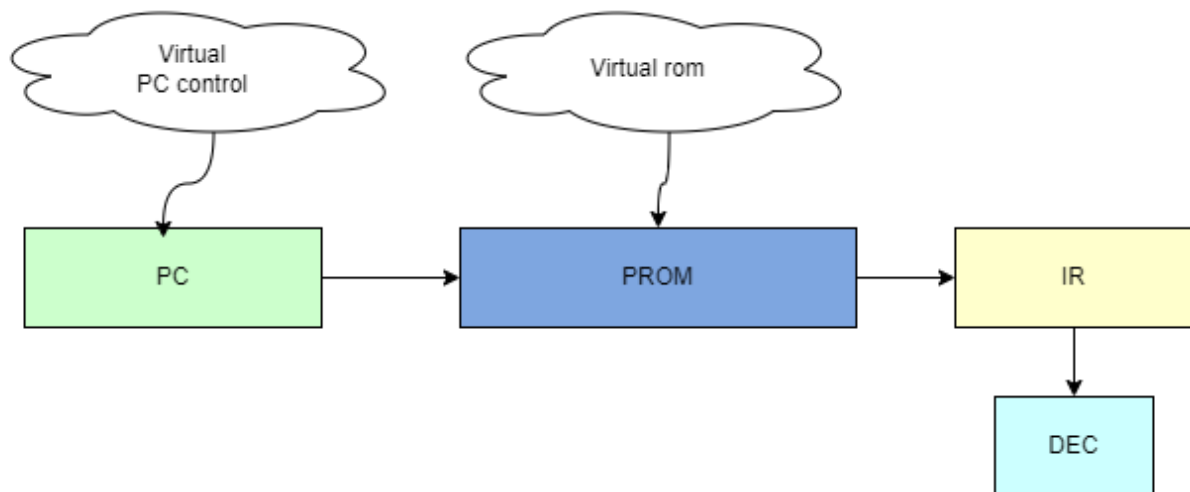

Figure 6: Fetch Unit Integration Test Configuration
The Fetch Unit integration isolates the instruction supply chain. Figure 6 illustrates the loop formed by the Program Counter (PC), Program ROM, and Instruction Decoder. This stage verifies the processor's ability to navigate memory, handle jumps and branches correctly, and decode opcodes into valid control signals, independent of the execution units.